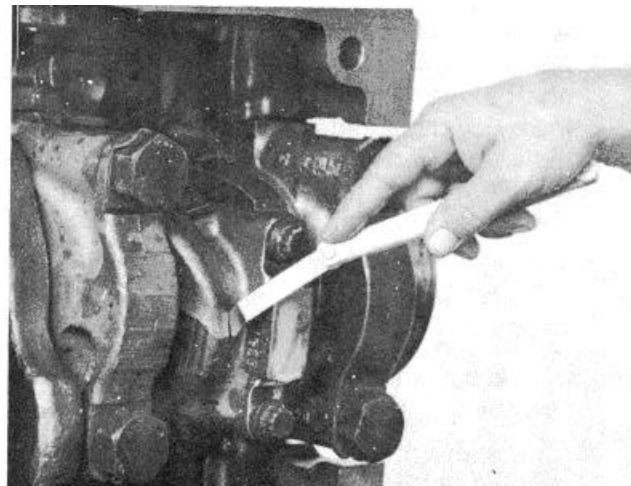

Fig. 14-19. Measure The Side Clearance.
10. Check the side-to-side (side clearance) movement of the connecting rod, Fig. 14-19. The connecting rod must move freely. The side clearance must be between 0.0045 inch [0.114 mm] and 0.013 inch [0.33 mm]. If the connecting rod does not move